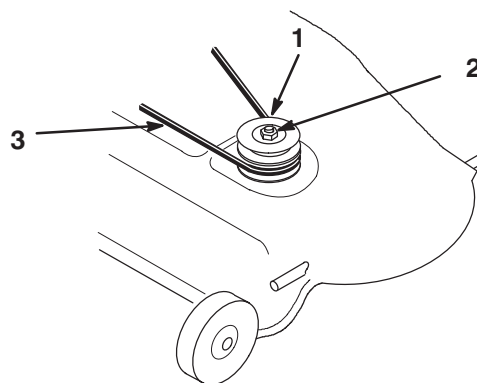

Figure 8
6. Secure the pulley with the lock washer and nut removed in step 2 (Fig. 8).
8. Install the existing mower belt by rotating it onto the bottom pulley (Fig. 8).